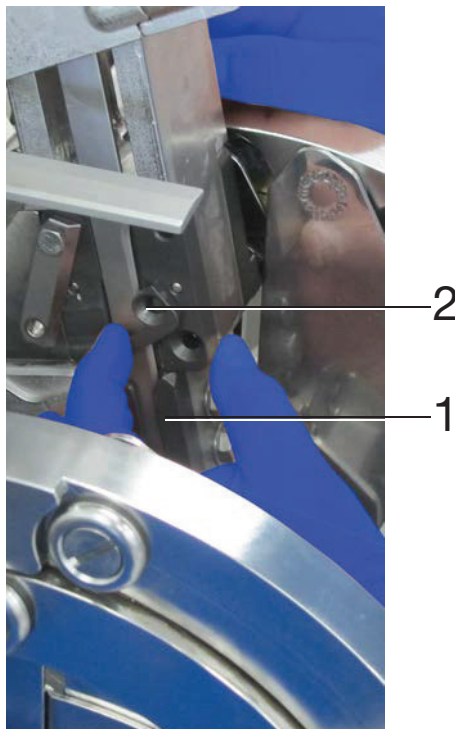

Fig. 7-13 1 Punch guide
- Fold the bracket (2, Fig. 7-13) forwards and tighten the fixing screw.